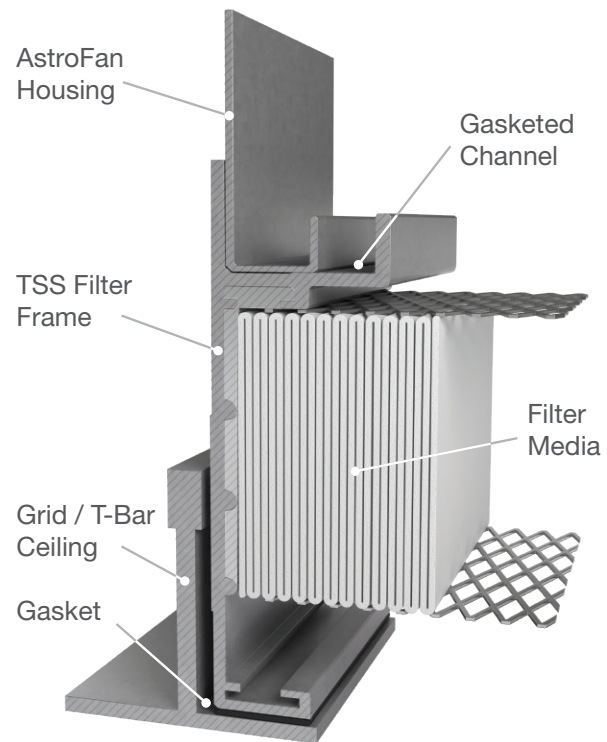
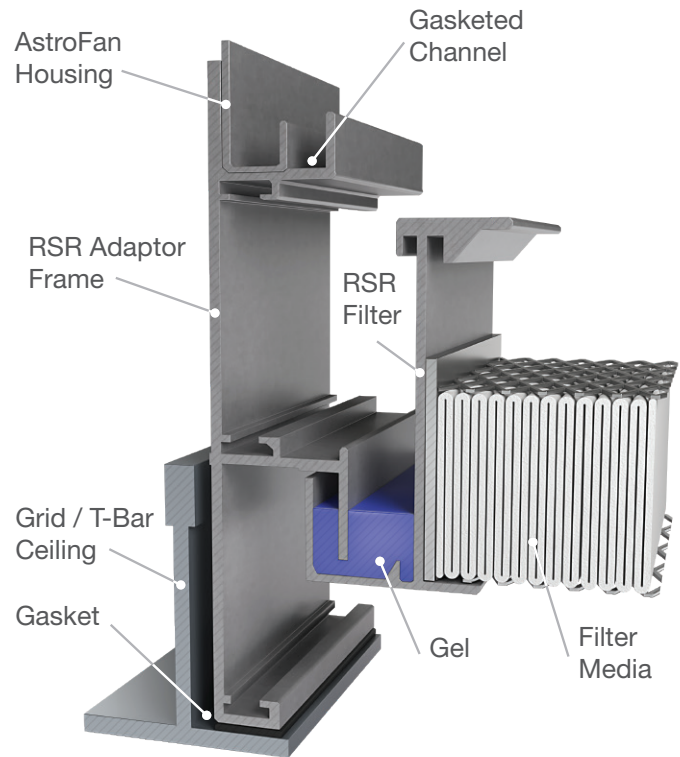
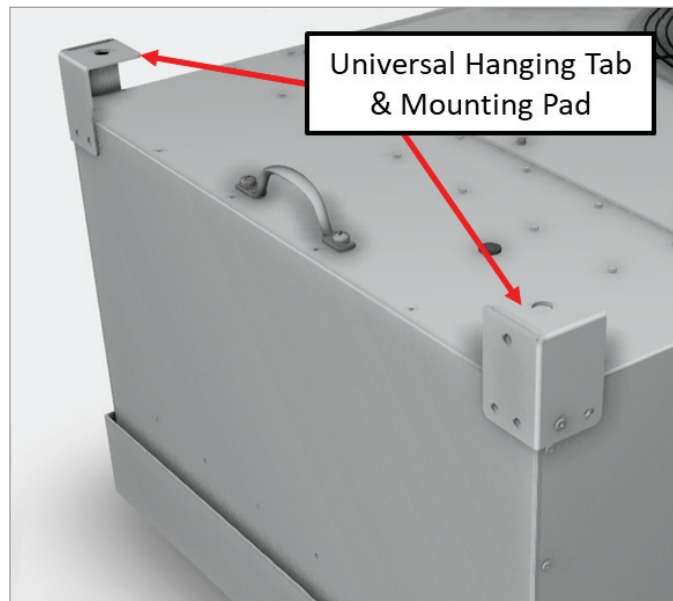

Fig 2: TSS Ceiling Grid Interface
Fig 3: RSR Ceiling Grid Interface
Fig 4: Wire - Hanging Tabs
- Using the integral handles, carefully lay the AstroFan™ unit onto the filter frame, ensuring its bottom edge rests in the gasketed channel of the filter frame. See Fig. 2.
- It is recommended that two (2) people work together to ensure proper handling of units.
- If using a flexible grid (typically supported with wires or rod), the unit must be secured to an engineered support system, suspended with wire or rod (supplied by others) using the universal hanging tabs/mounting pads affixed to the housing. See Fig. 4.
- Using the integral handles, carefully lay the AstroFan™ unit onto the RSR Adaptor Frame, ensuring its bottom edge rests in the gasketed channel of the filter frame. See Fig. 3.